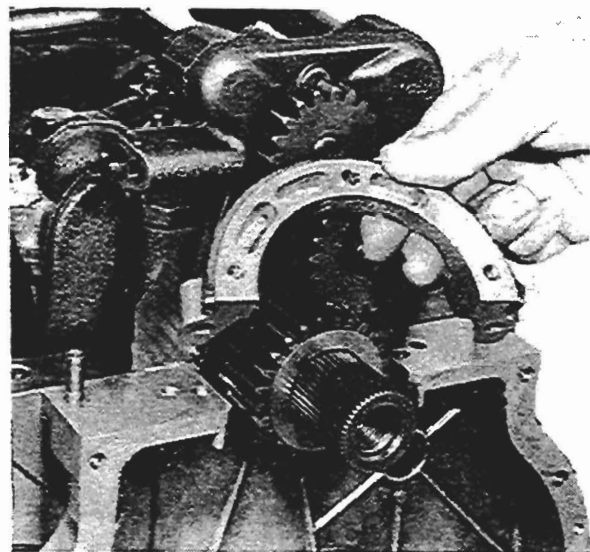

Fig. K9
4. Remove timing case bottom cover (see fig. K9).